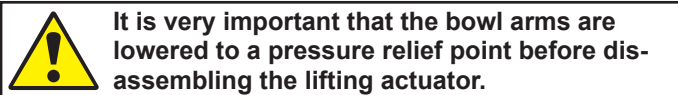

**Fig. 2. Belt tension.**
3. Tighten the belt until the belt can be bent approximately 9 mm (**dL**) at a pressure of approx. 9 kg (**F**), see **Fig. 2**.